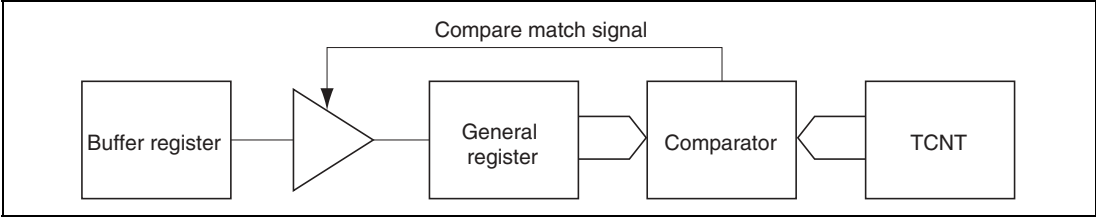

Figure 13.35 Compare Match Buffer Operation
- This operation is illustrated in figure 13.35.